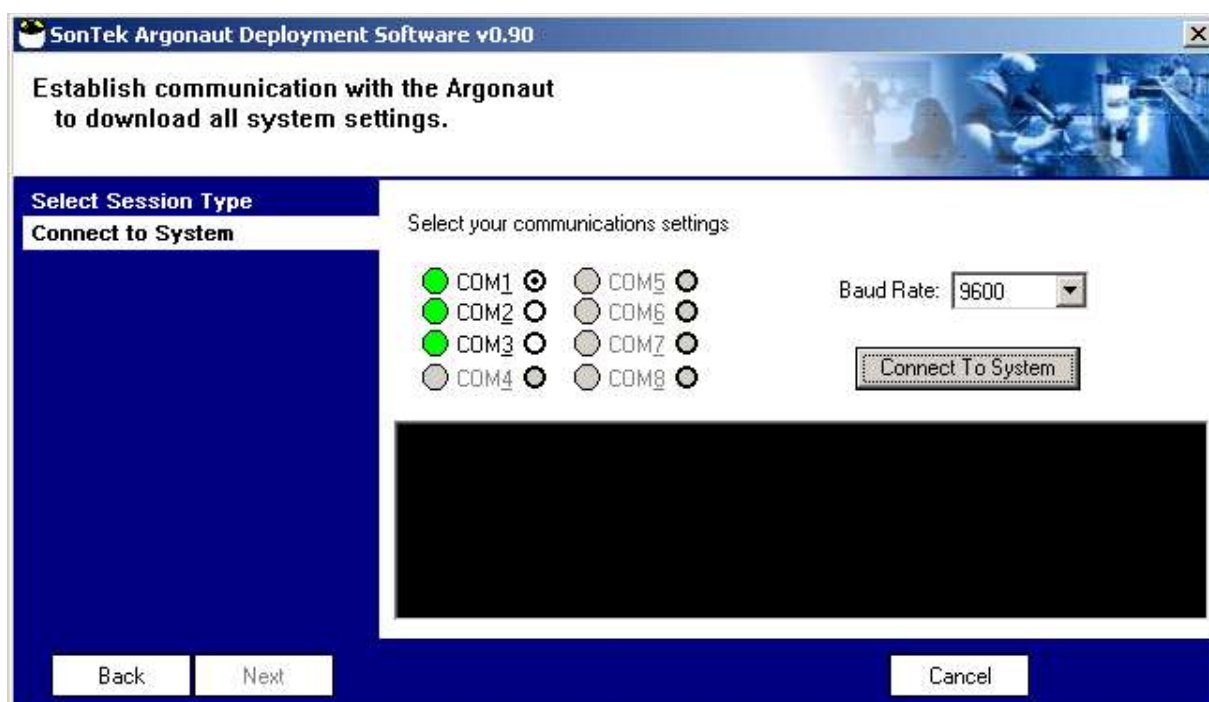

Figure 5-28. Deployment Software: Connect to System
- If you are connecting directly to a system, select **Direct system setup**. The next screen is shown in Figure 5-28. To establish communications with the system: